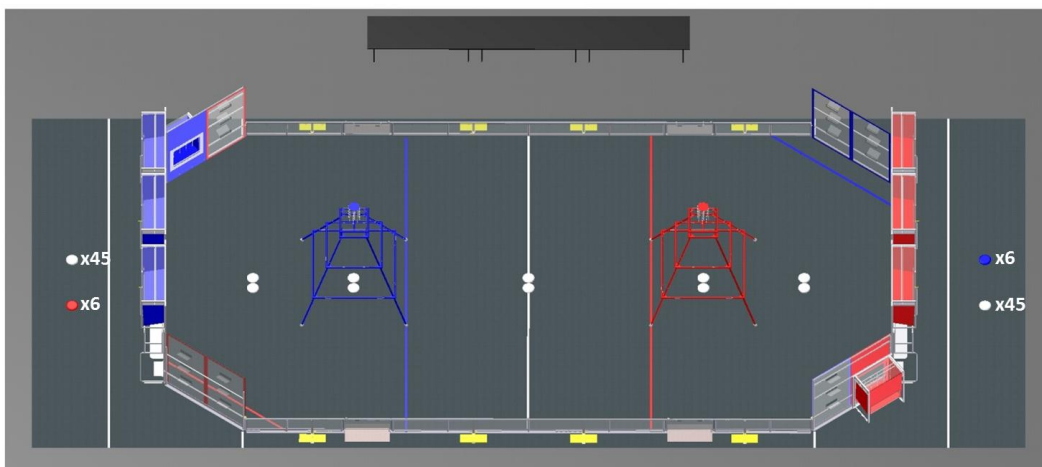

Figure 3-1: Starting Locations for DISCS
- A. No more than two (2) or three (3) White DISCS may be preloaded in each ROBOT by the TEAM, depending on the ROBOT'S starting position (see G06 for details).
- B. At least ten (10) White DISCS are staged on the FIELD approximately as illustrated in Figure 3-1.
- A. Two (2) DISCS are centered between the GUARDRAILS and 78 in. from the Blue ALLIANCE WALL to the center of the DISC.
- B. Two (2) DISCS are centered under the Blue PYRAMID.
- C. At least two (2) DISCS are placed centrally between the GUARDRAILS and along the field CENTER LINE.